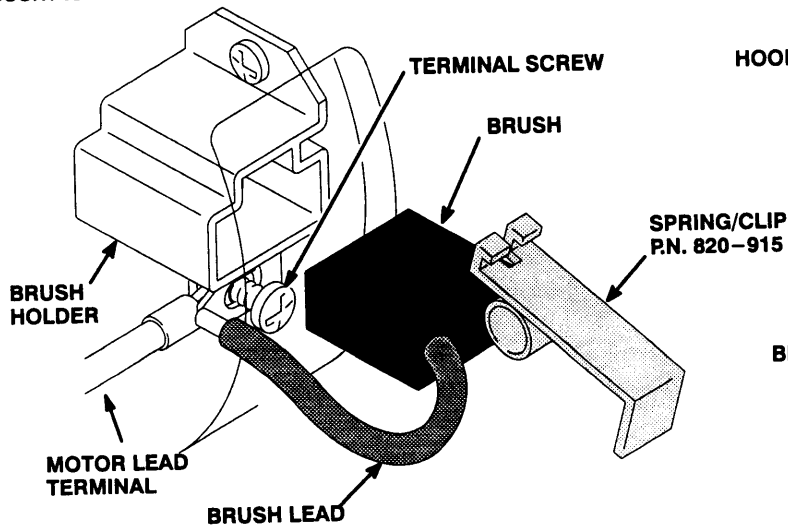

Fig 20-2
2. Push in the spring clip and release its hooks from the brush holder. Pull out the spring clip. See Fig 20-2.
3. Loosen the brush lead terminal screw. Pull the brush lead away, but leave the motor lead terminal in place. Remove and discard the brush. See Fig 20-2.
6. Place a new brush in the holder so the lead is closer to the fan-end of the motor. Slide the terminal under the terminal screw washer. Ensure the motor lead is still connected at the screw. See Fig 20-2.